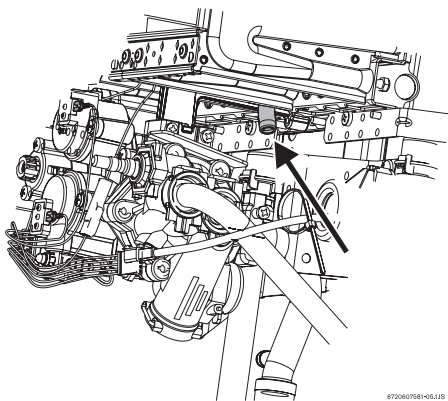

Fig. 13 Pressure measurement point
- ▶ Unscrew the shut-off screws (Fig. 13).